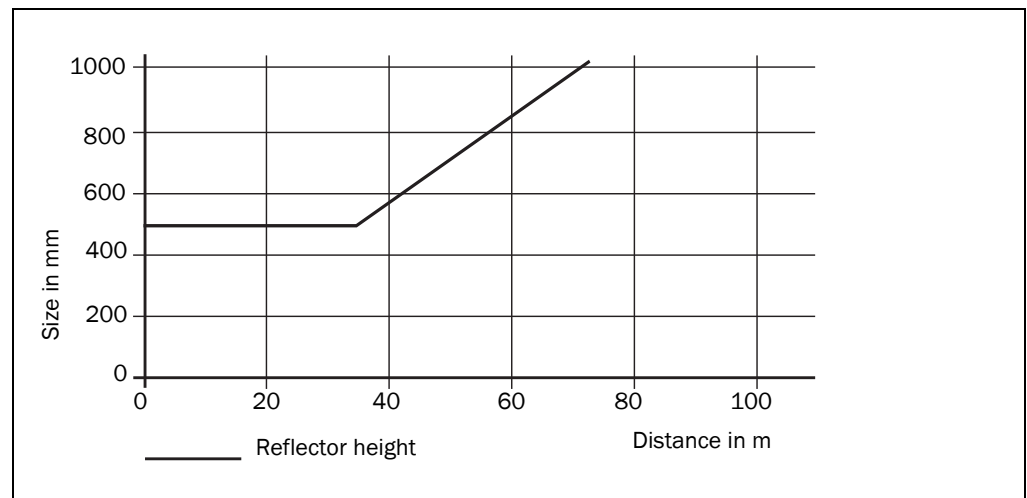

Fig. 19: Reflector height as a function of the distance from 0 to 70 m
**Important** The values stated in fig. 19 apply without taking into account unevenness on the ground and tipping of the AGV by the load!